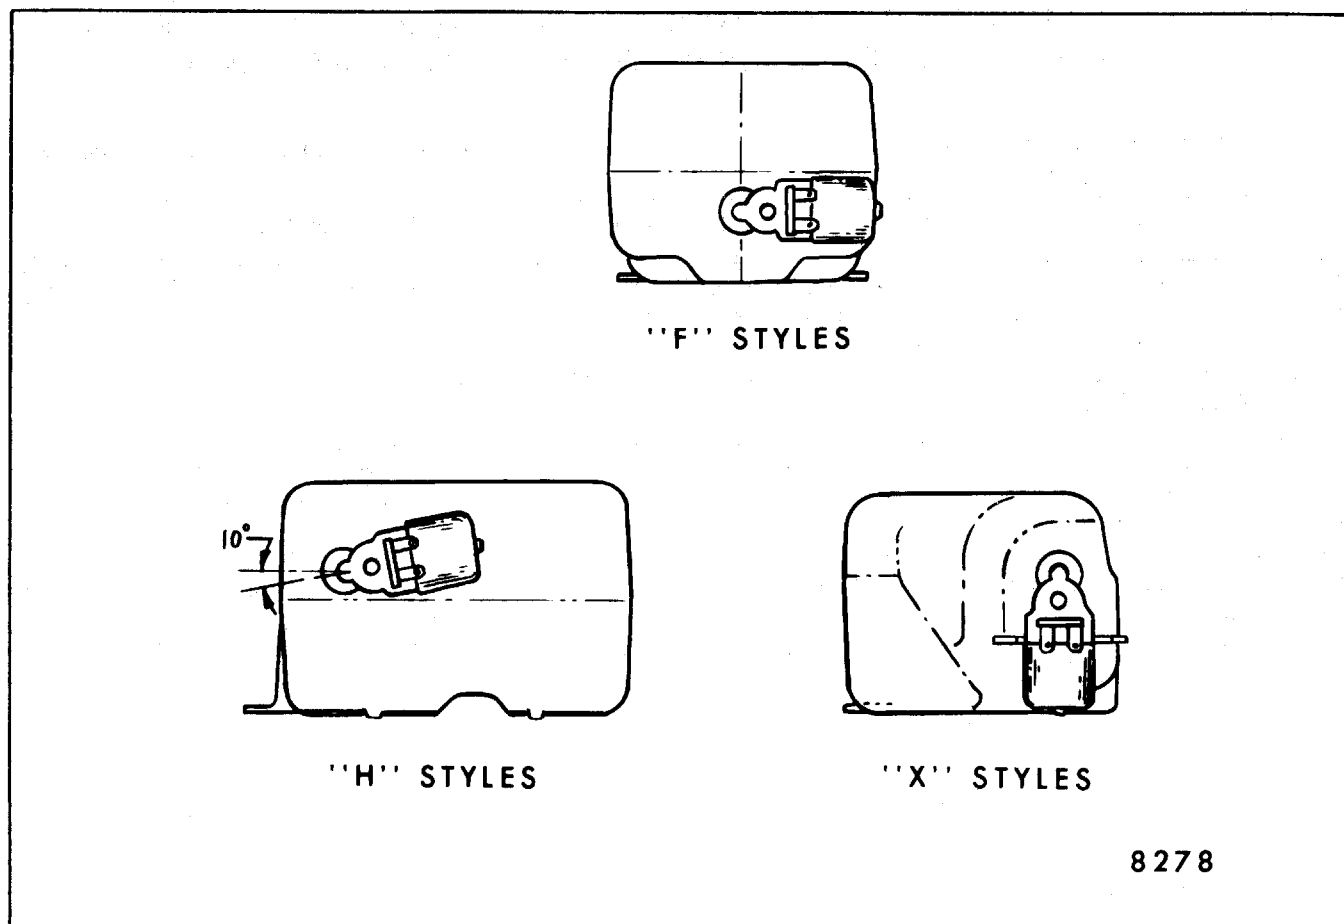

Fig. 2-102-Motor and Pump Assembly Positioning to Jar
3. Note installed position of motor and pump assembly in relation to bottom of jar (Fig. 2-102).